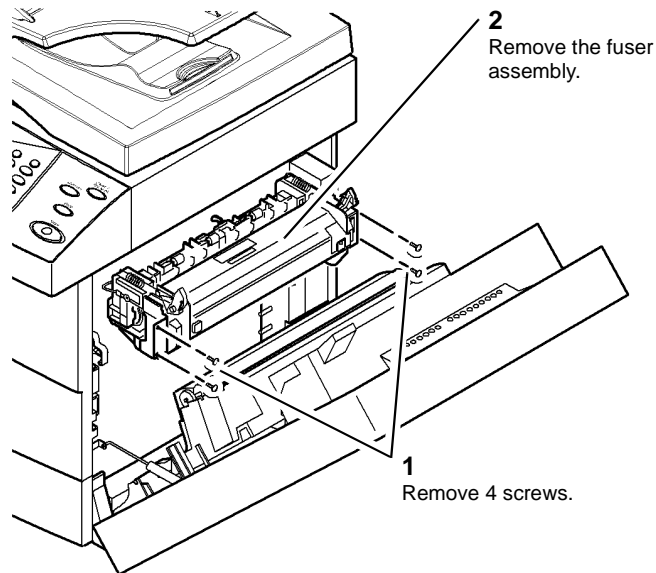

Figure 1 Removing the Fuser Assembly
2. Remove the Fuser Assembly (Figure 1).